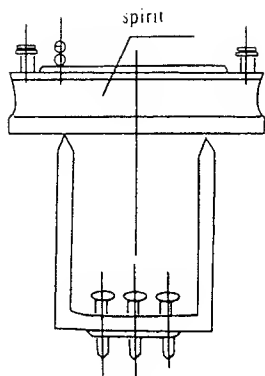

Fig. 4
- 3.1.3 The wheel balancer must be leveled (Fig.4), check it by spirit.